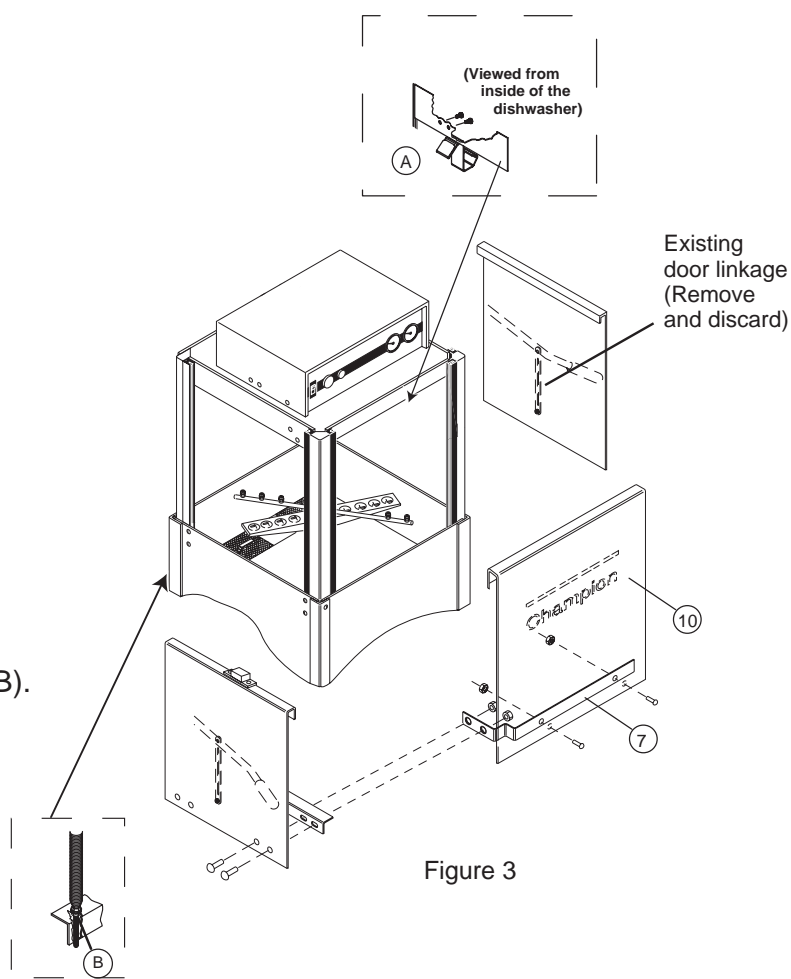

Figure 3
Refer to Fig. 3
- 8 Remove and discard the front door and the door catch assembly. The door catch assembly is mounted to right front inside of the hood (A).
- 10 Install item 7 from the kit as shown in Fig. 3 to reconnect the left and front door